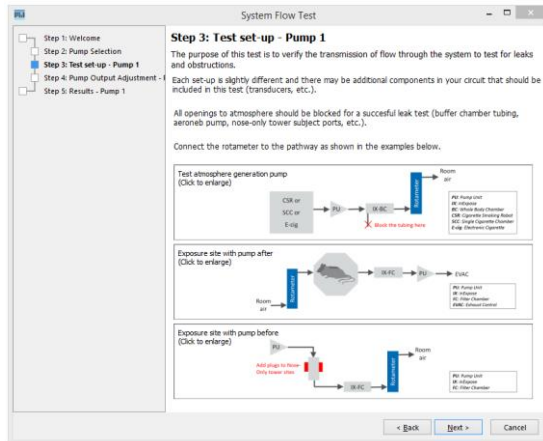

Figure 4. System Flow Test Schematic
4. Placement of PUs is also indicated in step 3 of the *System Flow test wizard* (Figure 4)